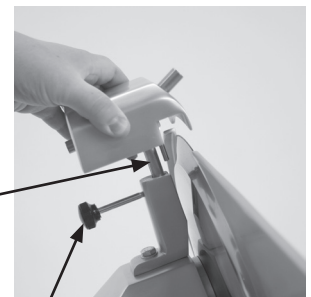

Figure 17-2
1. Loosen the sharpener release knob and pull the sharpener up to remove it (Fig. 17-2).
4. Put several drops of Globe oil on the main shaft (Fig. 17-2), place the sharpener back into position and tighten the sharpener release knob.